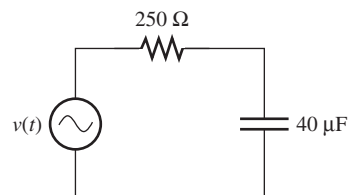

FIGURE P6.33 Circuit for Problem 6.33.
- 6.33 (B)* Find the steady-state expression of current for the circuit in Figure P6.33 if the voltage source is $v(t) = 10 \cos(200t + 30^\circ)$.